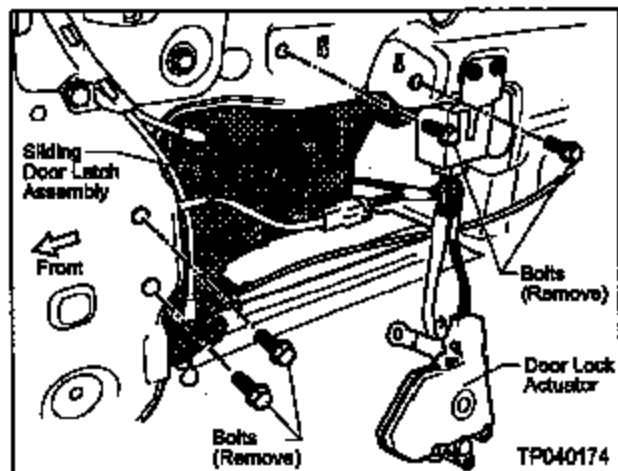

Figure 9
- a. Remove the four Bolts that secure the Latch Assembly to the door (see Figure 9).